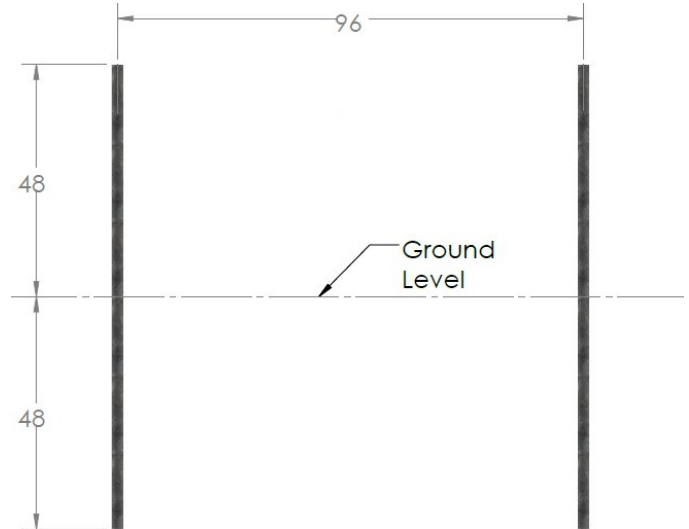

Figure 1
- **The steel posts must be pounded 3'–4' into the ground** (*Figure 1*). Anything less can create an unstable finished product.